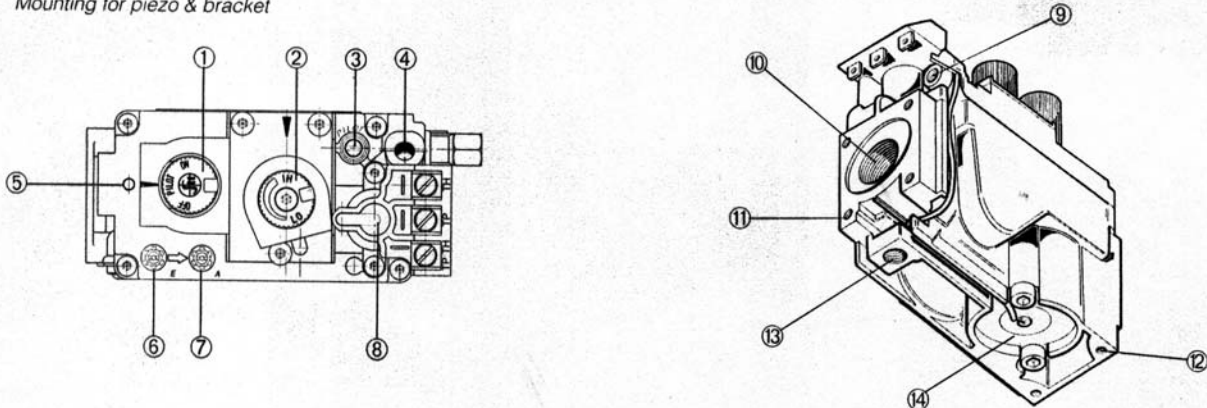

Figure 5
The room in which the heater is to be installed has an air volume of less than 50 cubic feet for each 1000 BTU/hr ($4.8 \text{ m}^3 / \text{K. W.}$) input rating for all appliances in the space. This includes adjoining rooms only if there are doorless passageways between them, or there are vents between the rooms.(See Figure 5).
The supply line pressure is tested, to ensure it meets the minimum pressure, as listed in the Specifications sections of this manual, for the type of fuel in use (NG or LP). The Tucson must be isolated from the gas supply piping system by closing its individual manual shutoff valve during any pressure testing of the gas supply piping system at test pressures equal to or less than 1/2" psig. During tests in excess of 1/2" psig. (14" w.c.), the heater must be disconnected from the gas supply system. Test by connecting a manometer to the supply line. Adjust the incoming pressure, if necessary, to meet the required supply line pressure. Once connected to the gas supply, the gas inlet pressure and manifold gas pressure must be tested. The gas inlet tap (6) and manifold pressure tap (7) is located on the control valve (see Figure 5). Connect a manometer to the test points on the gas control valve, refer to #'s 6 & 7 of Figure 5 for locations.
The pilot light is preset by the manufacturer and should not need adjustment. The pilot light flame should be large enough to engulf the thermopile and, on a NG assembly, the thermocouple as well (located next to the pilot), but not so large as to create excessive noise or consume excessive gas. However, it can be adjusted by means of the pilot light adjustment screw located on the gas control valve. Open valve door to access the pilot adjustment screw. Refer to # 3 of *Figure 5* to